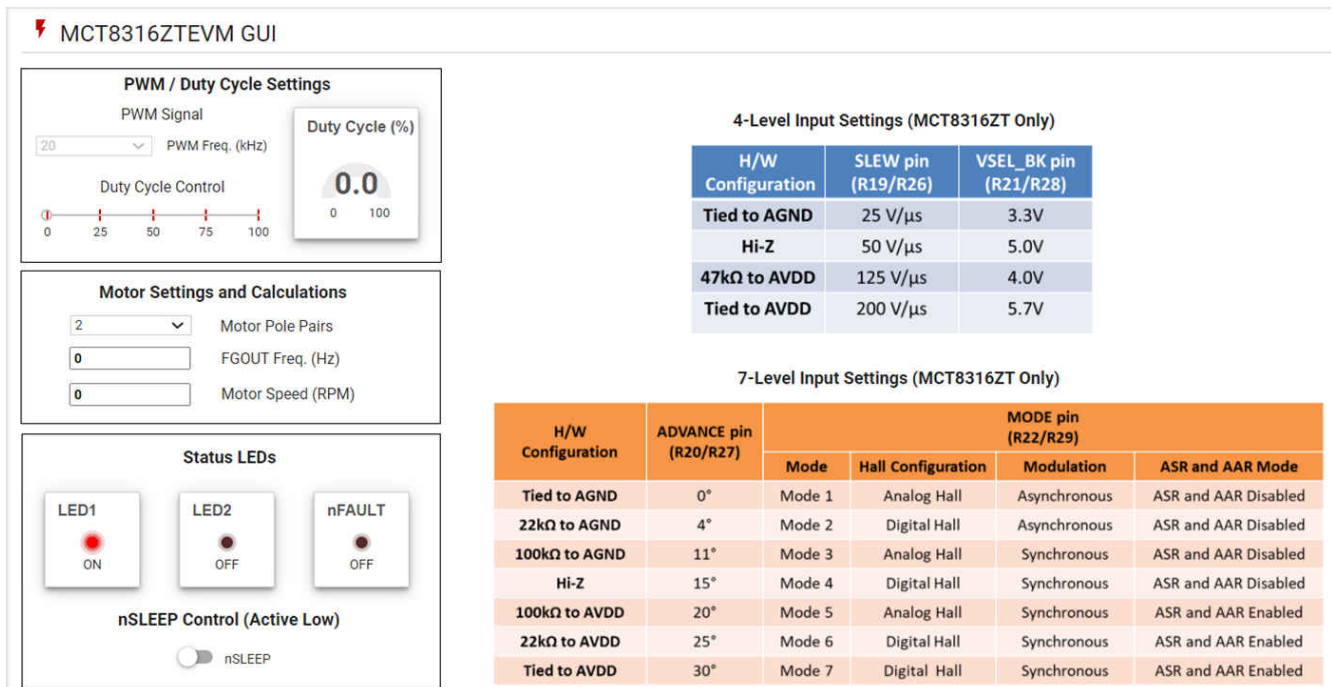

Figure 6-3. MCT8316ZTEVM GUI
3. Once the project is loaded, click on the Play button () to launch the MCT8316ZTEVM GUI as shown in Figure 6-3.